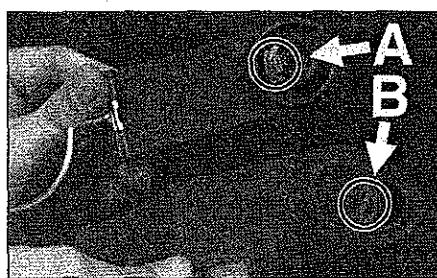

Figure 45
4. Visually inspect the molded plastic steps. Item A in Figure 45 is the step on the inside of the arm. Item B is the step on the outside of the handle. If either step is cracked or broken, the respective part must be replaced.